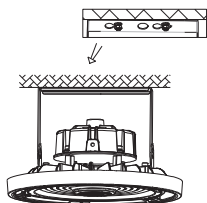

Figure 6
3. Align the bracket hole with screw hole (figure 5), and push the fixture to one side (figure 6) and fix it.